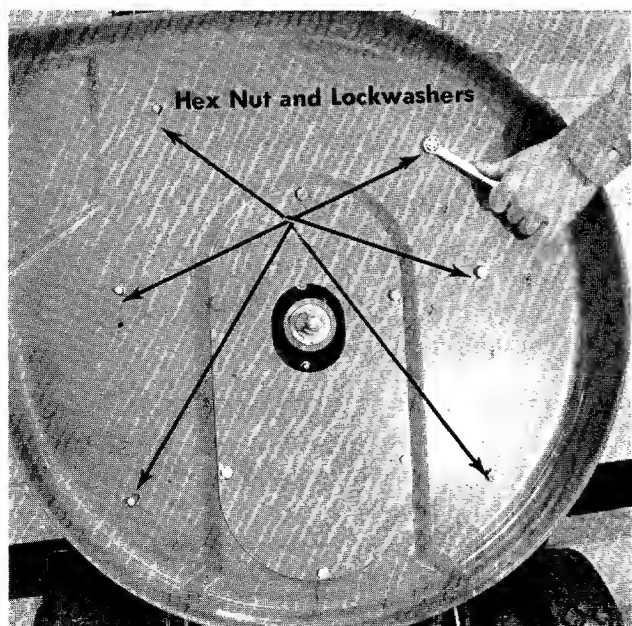

FIGURE 23. REMOVING THE DECK
Step 3. Take off the deck by removing the six hex nuts and lock washers as shown in figure 23.
- Step 3. Take off the deck by removing the six hex nuts and lock washers as shown in figure 23.